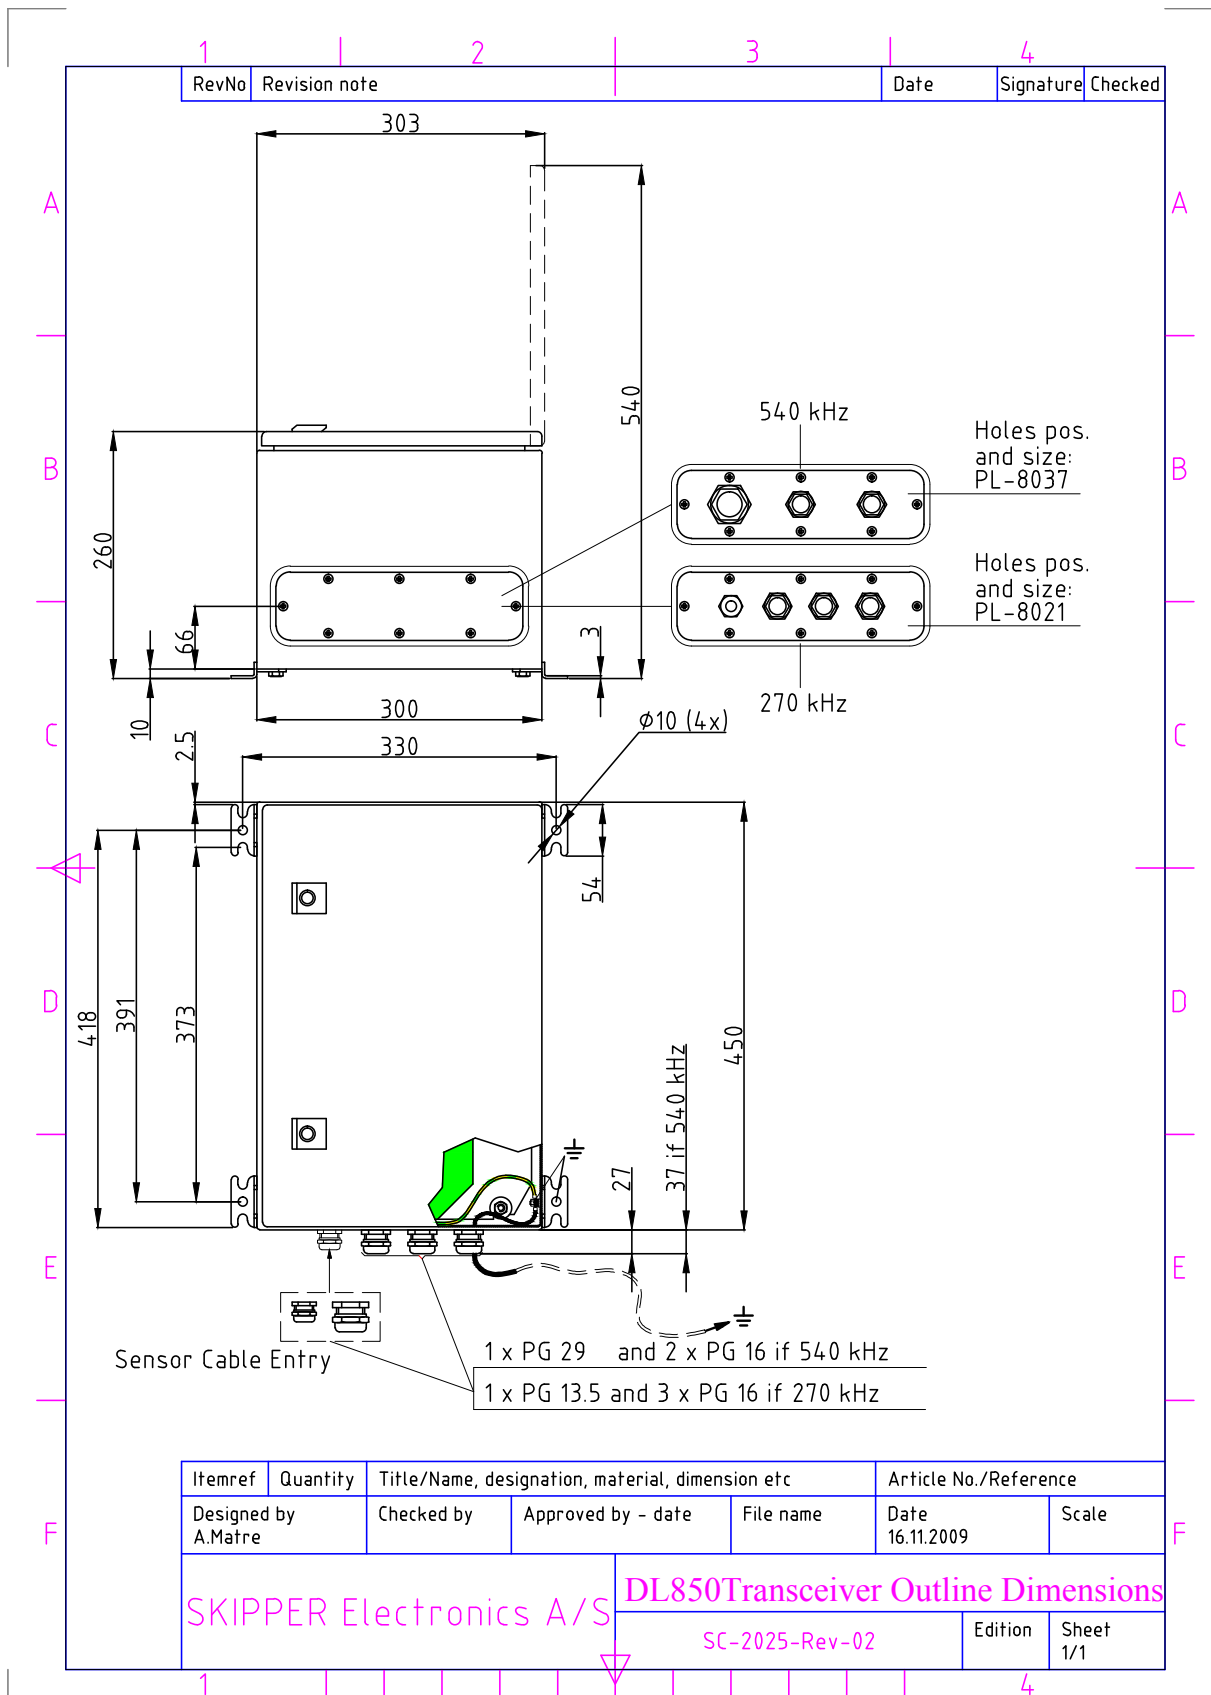

Fig. 10.6. Transceiver Unit Dimensions
- Fig. 10.6. Dimensional drawing of transceiver unit.